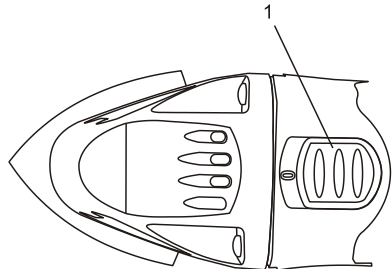
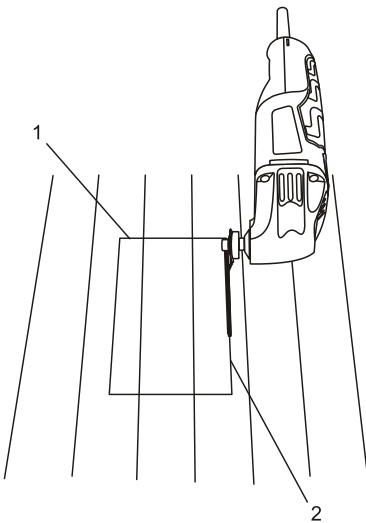

Fig. 5
Fig. 7
1. To turn the tool ON, slide the ON/OFF switch (1) toward the front of the tool (Fig. 5).
3. Place the tool with the saw blade (3) lightly touching the surface of the tile and the cutting teeth NOT touching the surface to be cut.
4. Turn the tool ON (Fig. 5 Page 11).
3. Place the floor vent on the floor and use a soft lead pencil to trace the required rectangular hole (1) on the flooring (Fig. 7).
4. Place the saw blade (2) near the floor surface in the middle of one of the cutting lines.
5. Turn the tool ON (Fig. 5 Page 11).